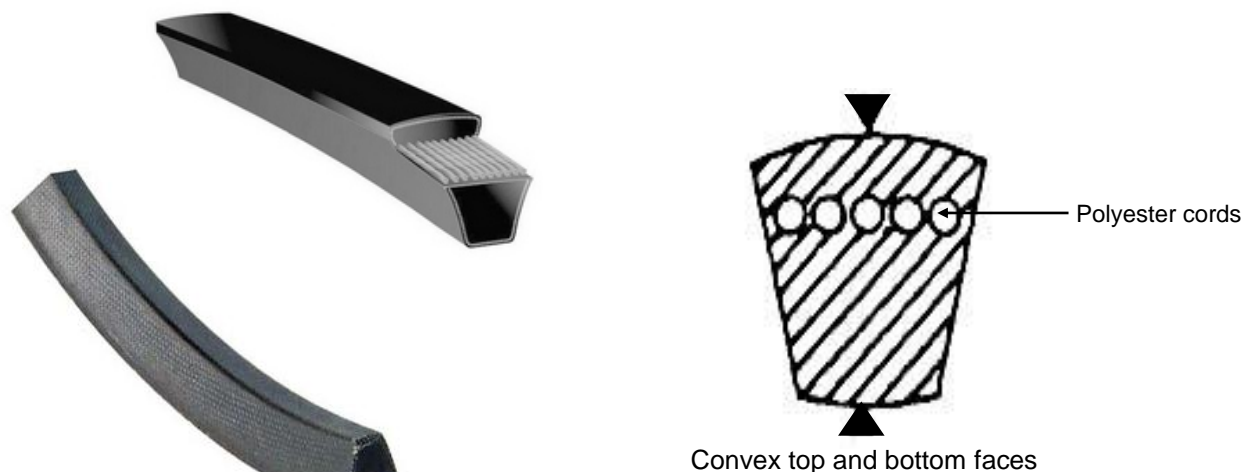

FIG 2.
- The V-belt can be identified by its convex form at the top and bottom. Fig 2 shows these features.